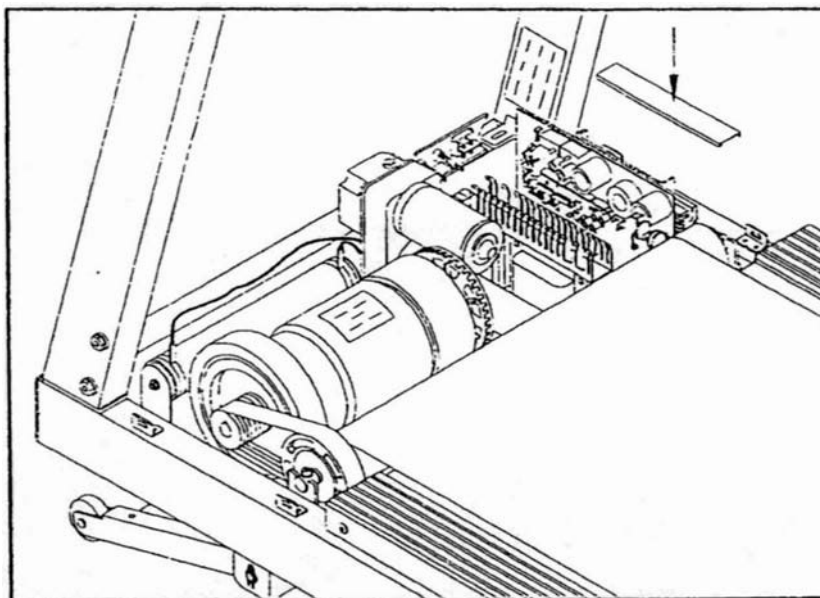

Fig.5
- Replace the protective shroud. Replace the motor shroud and secure with the screws. (see Fig.5)